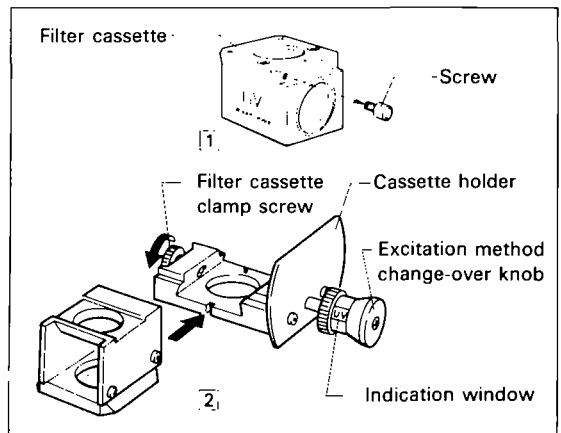

Fig. 10
8. Attaching the filter cassette (Fig. 10)